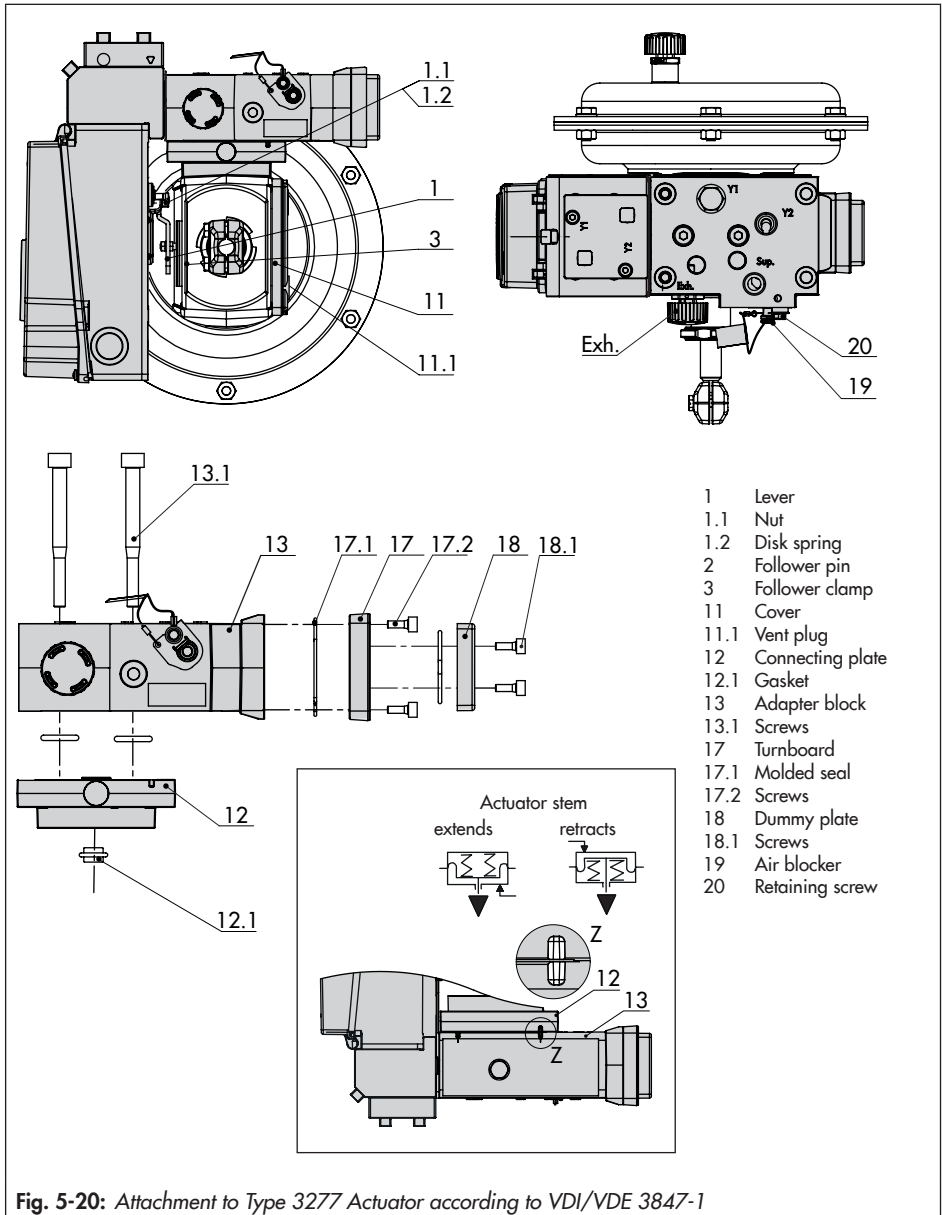

Fig. 5-20: Attachment to Type 3277 Actuator according to VDI/VDE 3847-1
→ See Fig. 5-20
1. Fasten the positioner to the adapter block (13) using the two fastening screws (6.3). Make sure the molded seal (6.2) is properly seated (see Fig. 5-20).
12. Mount cover (11) on the other side. Make sure that the vent plug is located at the bottom when the control valve is installed to allow any condensed water that collects to drain off.